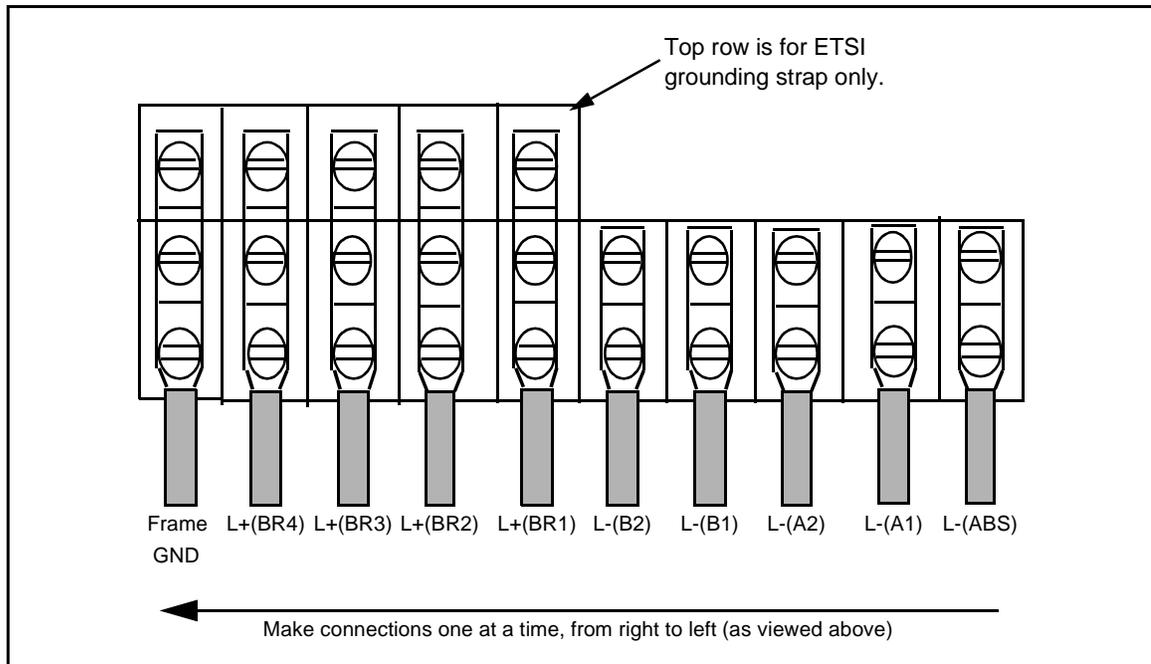

Figure 2.7 - Power Interface Terminal Block Connections
5. Connect the office battery cables to PI terminal block as shown in Figure 2.7. A 7mm (9/32") socket or nut driver is required. Secure the cables to the kiosk using ty-raps.
5. Connect the office battery cables to PI terminal block as shown in Figure 2.7. A 7mm (9/32") socket or nut driver is required.